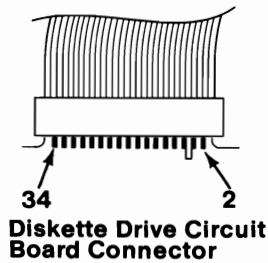

Figure 5. Voltage Check
- Power on the system and monitor the voltage at pin 24 on the diskette drive circuit board (Figure 5 on page 0600-12).